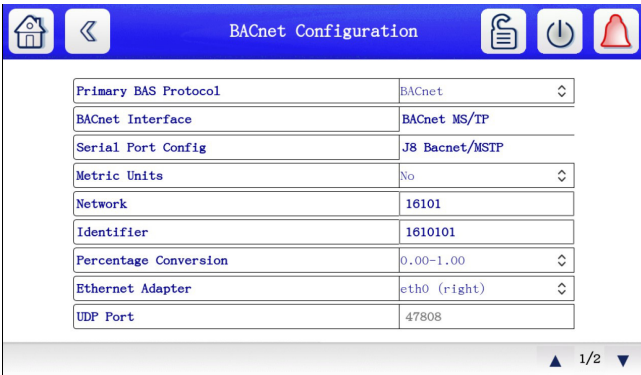

Fig. 10 — Typical BACnet Configuration Screen (BACnet MS/TP)
6. From the Controller Config screen, press the BACnet configuration icon (🔌) to go to the BACnet Configuration screen. See Fig. 10 for BACnet config screen layout.